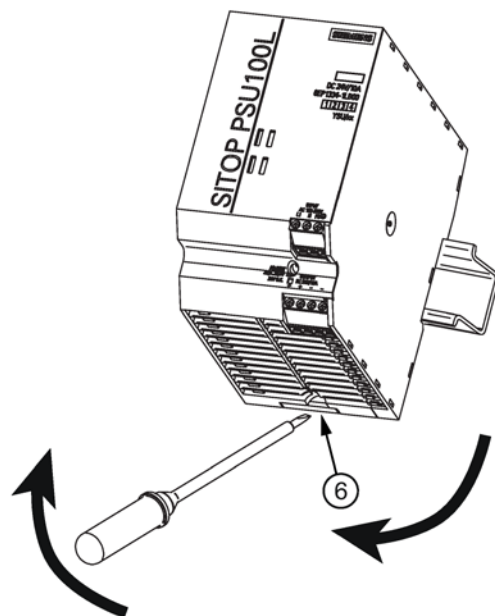

Figure 3-1 Removal (example, 6EP1334-1LB00)
To remove, pull up the slider ⑥ using a screwdriver (see Figure 3-1 Removal (example, 6EP1334-1LB00) (Page 19)) and disengage the device at the bottom edge of the standard mounting rail. Then you can remove the device from the upper edge of the standard mounting rail.